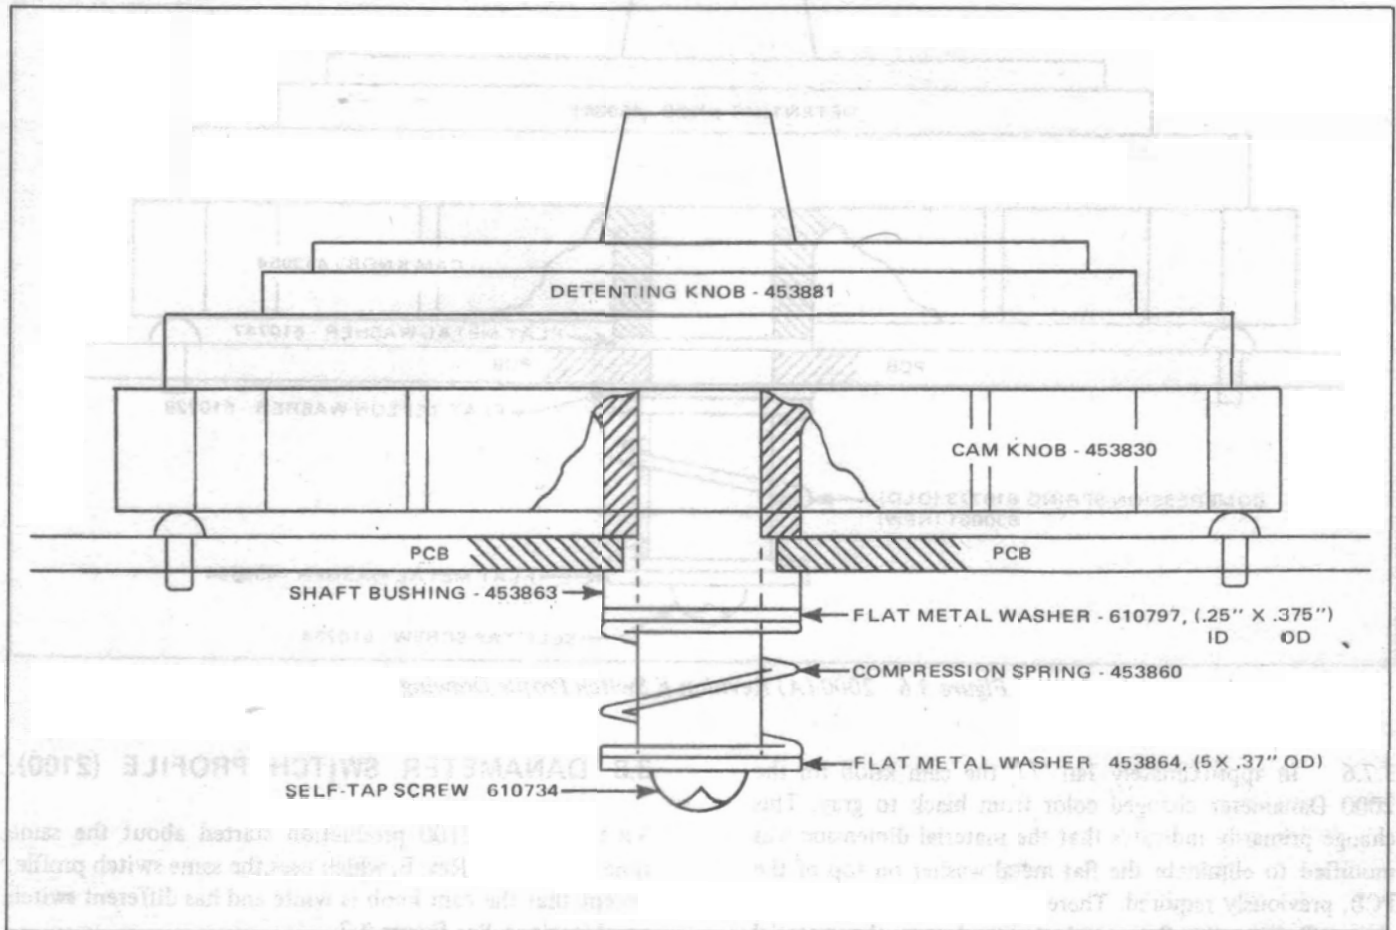

Figure 3.5 - 2000 Revision B&C Switch Profile Drawing
3.7.1 Model 2000 B and C revision PCBs used a bushing, washer, spring, washer and screw to secure the detenting/cam knob for proper switch operation. See Figure 3.5.